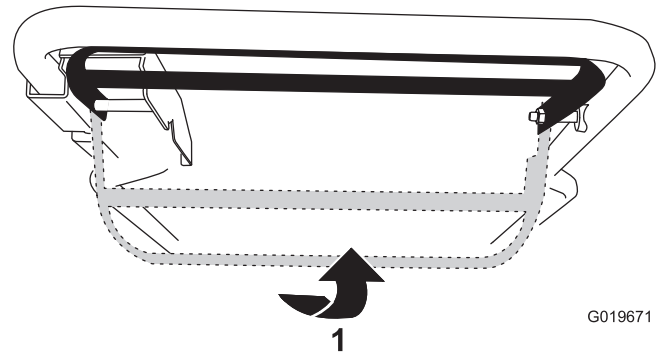

Figure 20
- To operate the self-propel drive without engaging the blades, raise the control bar to the handle (Figure 20).
- To operate the self-propel drive and engage the blades, slide the control bar all the way to the right and raise it to the handle (Figure 20).